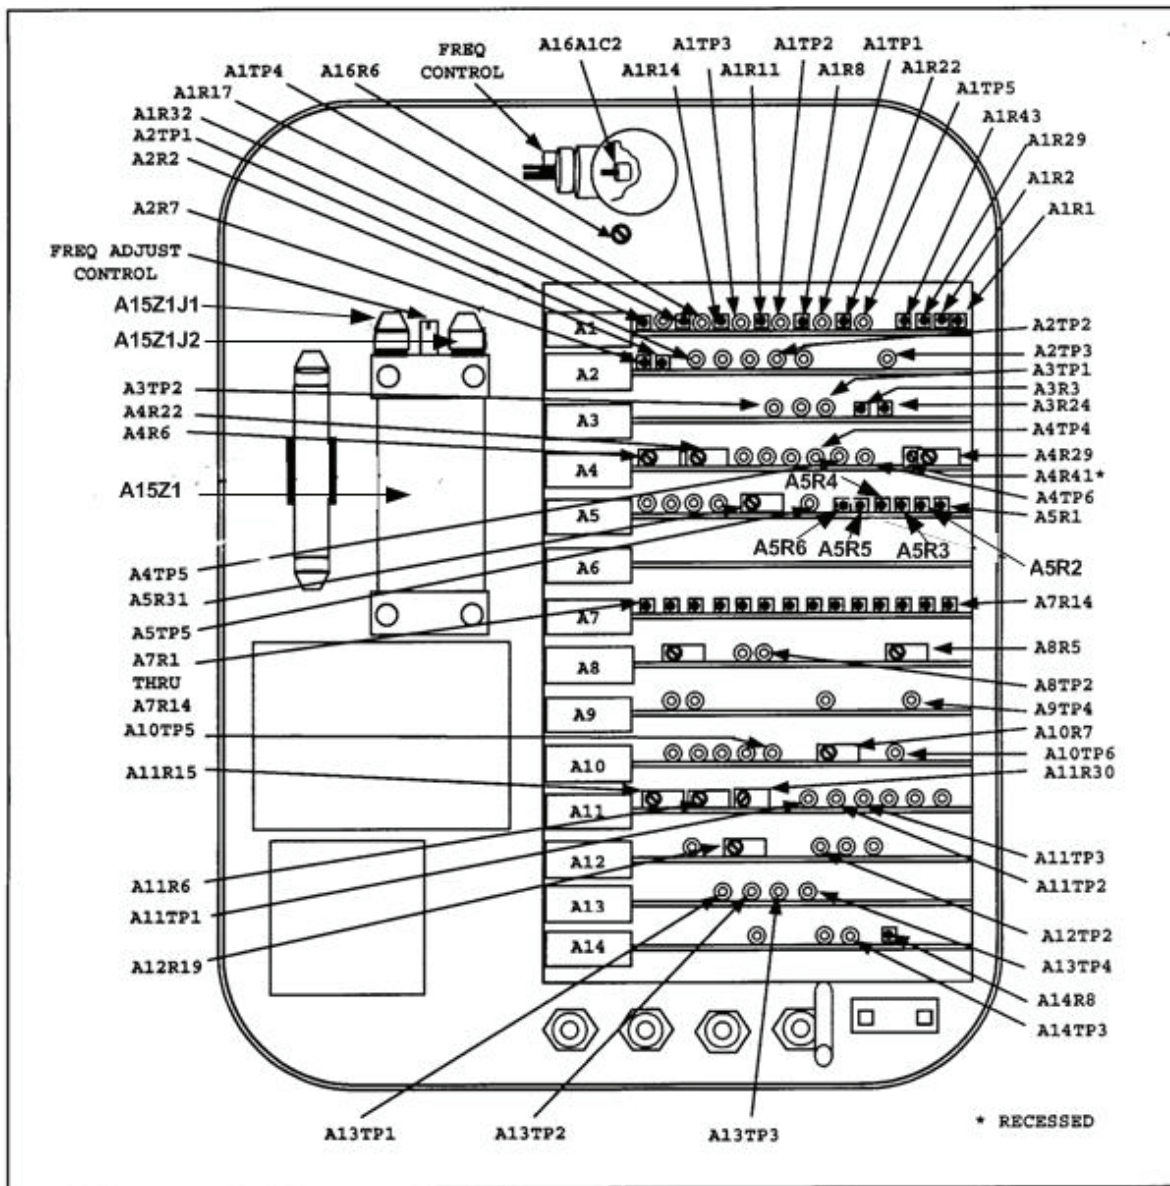
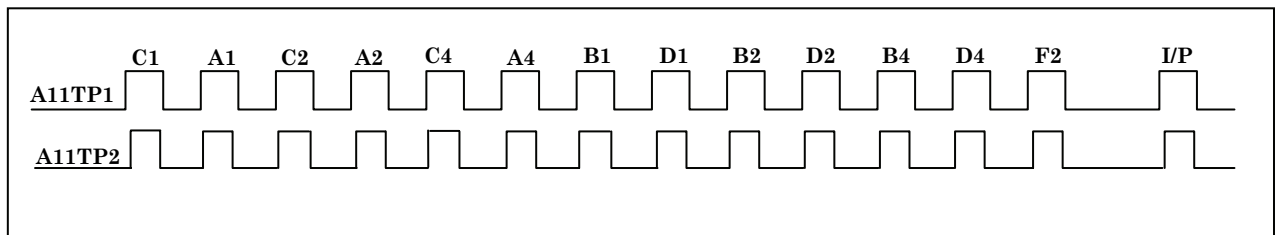

Figure 2. Test instrument adjustments and test points.
Figure 3. Comparison pulse position.
- (1) Install variable attenuator between RTS Main RF I/O connector and circulator PORT 1. Set Menu 11 RF power to 0 dBm and adjust variable attenuator for -9 dBm on peak power meter.
- (2) On Menu 11 set CW to OFF.
- (3) Disconnect cable from peak power meter and reconnect to TI Probe connector. Adjust A8R5 (fig. 2) until ACCEPT light glows. Decrease RTS RF power by 1 dBm. TI REJECT indicator will glow.
- (4) Remove variable attenuator and reconnect circulator to MAIN RF I/O.
- (5) Repeat a (1) through (5).
(1) Disconnect cable from RTS oscilloscope **CH 1** to **DEMOD OUT** connector and connect oscilloscope **CH 1** (using X10 probe in RTS accessory kit) to test point A8TP2 of TI (fig. 2).
(2) On RTS select **Menu 10** and set **FREQUENCY** to **1090 MHz**.
(3) Loosen (slightly) locknut of **TI FREQ ADJ** control at preselector A15Z1 (fig. 2) and adjust **FREQ ADJ** control until displayed pulse is peaked (R).
(4) Retighten **FREQ ADJ** control locknut, while using a screwdriver to maintain a peaked pulse.
(6) Loosen base plate of jack A15Z1J1 (fig. 2) and A15Z1J2 (fig. 2).
(7) Remove jacks A15Z1J1 (fig. 2) and A15Z1J2 (fig. 2) from TI. Observe direction of each probe and mark position of one side on each jack.
(8) Replace each jack and fasten A15Z1J1 (fig. 2) in position (mark pointing at **FREQ ADJ CONTROL**).
(9) Position jack A15Z1J2 (fig. 2) using mark approximately 10 degrees from A15Z1J1 (fig. 2) mark. Fasten A15Z1J2 (fig. 2) in position.
(10) Perform **a** (1), (2), and (4) above.
(11) If the bandwidth is too broad, rotate the mark on jack A15Z1J2 (fig. 2) slightly toward mark on jack A15Z1J1 (fig. 2). If bandwidth is too narrow, adjust it slightly away from mark at A15Z1J1 (fig. 2).
(12) Fasten jack A15Z1J1 (fig. 2) by replacing base plate.
(13) Determine bandwidth as described in **a** (1), (2), and (4) above. If necessary, repeat (11) and (12) above.
(1) Disconnect cable from RTS oscilloscope **CH 1** and **DEMOD OUT** connector and connect X10 oscilloscope probe from **CH 1** to test point A10TP5 (fig. 2).
(2) Connect second X10 probe (also from RTS kit) from oscilloscope **CH 2** to test point A4TP6 (fig. 2).
(3) Press oscilloscope **AUTO-SCALE** pushbutton and set **TIME/DIV** switch to **1 μ s**. Delay from leading edge of second pulse on **CH 2** to trailing edge of pulse on **CH 1** should be between 1.6 and 2.0 μ s; if not, perform **b** below.
(4) Disconnect oscilloscope **CH 1** probe from A10TP5 (fig. 2) and connect to test point A8TP2 (fig. 2).
(5) Disconnect oscilloscope **CH 2** probe from A4TP6 and connect to test point A9TP4 (fig. 2).
(6) Press oscilloscope **AUTO-SCALE** pushbutton once again and set **TIME/DIV** switch to **2 μ s**. Delay between leading edge of last pulse on **CH 1** and trailing edge of pulse on **CH 2** will not exceed 6 μ s.
b. Adjustments. Adjust test instrument video enable delay control A10R7 (fig. 2) until delay from leading edge of second pulse on **CH 1** to trailing edge of pulse on **CH 2** is 1.8 μ s (R).
(1) Disconnect oscilloscope probes from test points A8TP2 and A9TP4 (fig. 2). Connect **CH 1** probe to test point A11TP1 (fig. 2).
(2) Set oscilloscope **TIME/DIV** switch to **100 ns**, **TRIGGER SOURCE** to **CH 1**, and adjust **HORIZONTAL POSITION** control to position pulse on **CH 1** for a pulse width measurement. If video pulse width is not between 0.65 and 0.7 μ s, perform **b**(1) below.
(3) Disconnect oscilloscope **CH 1** probe from test point A11TP1 (fig. 2) and connect it to A11TP2 (fig. 2). If width of comparison pulse is not between 0.49 and 0.51 μ s, perform **b** (2) below.
- (1) Adjust control A11R6 (fig. 2) until pulse width is 0.675 μ s (R).
- (2) Adjust control A11R15 (fig. 2) until pulse width is 0.5 μ s (R).
- (1) Disconnect oscilloscope **CH 1** probe from test point A11TP2 (fig. 2) and connect it to test point A11TP1 (fig. 2).